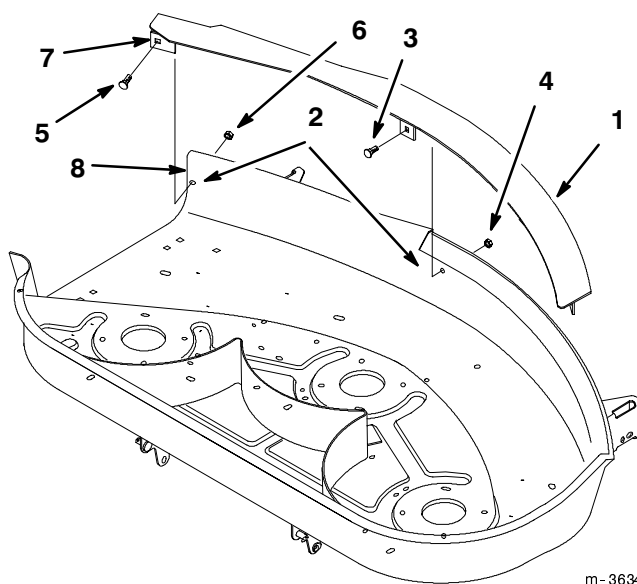

Figure 3
1. Place the front grass baffle inside the front edge of the mower. The baffle plate should rest on the front edge of the mower. The right tab on the baffle should extend 1/8" outside of the right edge of the mower (Fig. 3). Use a clamp to hold the baffle in place.
2. Mark where the holes in the baffle are and remove the clamp and grass baffle. Drill (4) 11/32" holes (Fig. 3).
3. Install the grass baffle inside front edge of the mower using (3) 5/16 x 7/8" carriage bolts and (3) 5/16" lock nuts along the front. At the right side use the 5/16 x 1/2" carriage bolt and thin 5/16" lock nut (Fig. 3).